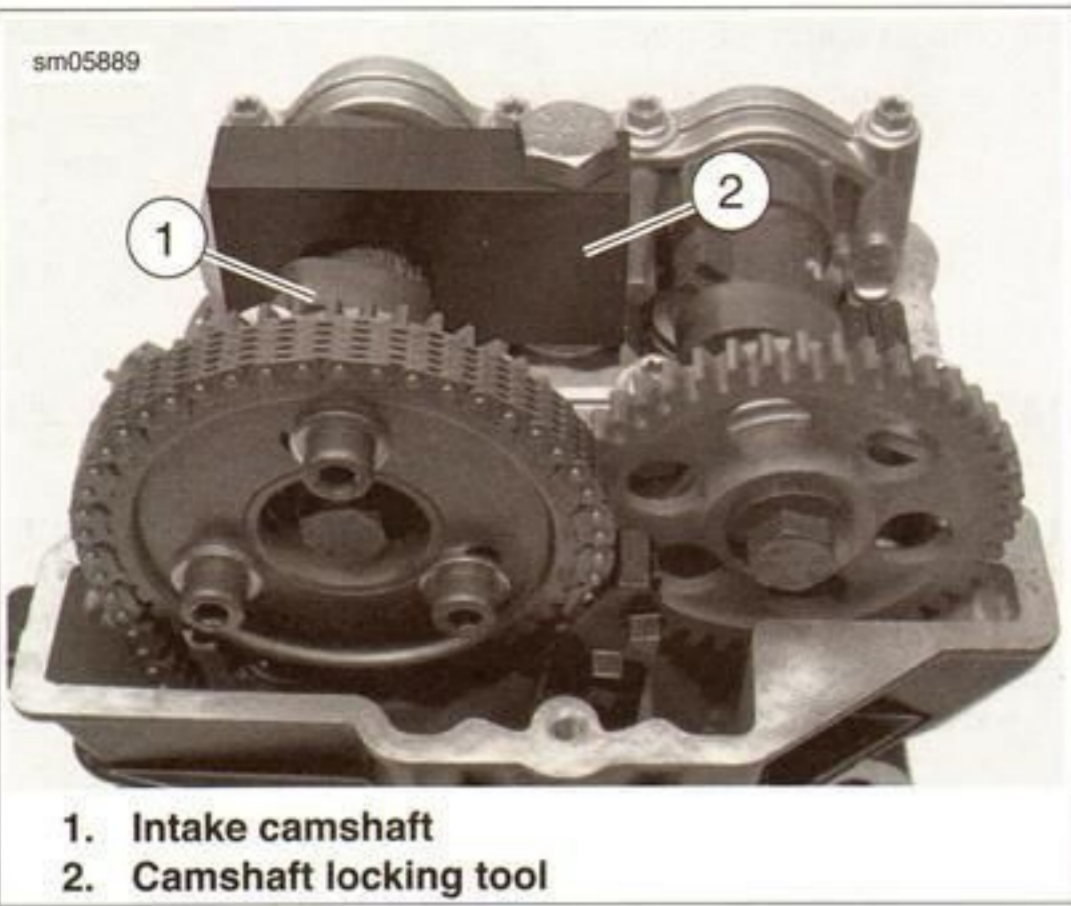

Figure 3-81. Camshaft Locking Tool
7. See Figure 3-81. Install CAMSHAFT LOCKING TOOL (Part No. B-49258) (2) to lock camshafts in proper position.